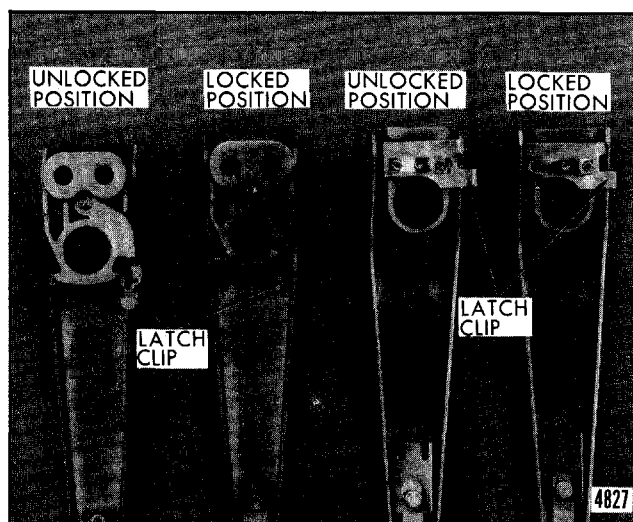

Fig. 2-37-Wiper Arm Latch Clips - "E" Styles
9. On "E" styles, align keyway in right wiper arm assembly to transmission shaft and install arm assembly to shaft (Fig. 2-37).